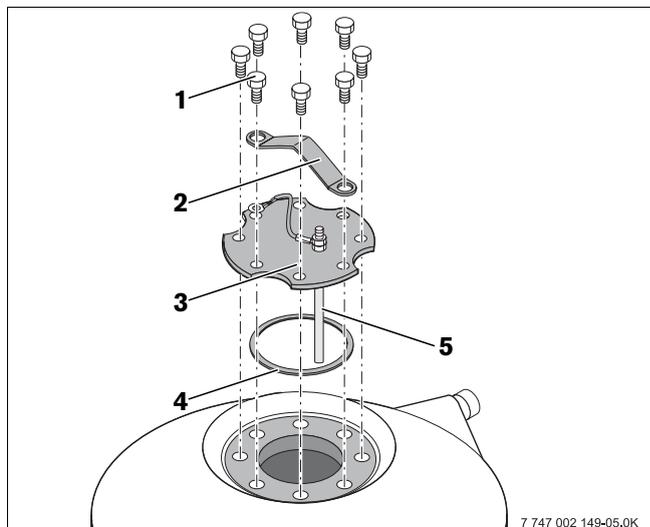

Fig. 17 Installing access port cover
- After cleaning, we recommend you use a new access port cover gasket (Fig. 17, **Item 4**) to prevent the DHW tank from leaking.
- Put the access port cover (Fig. 17, **Item 3**) back in place with gasket (Fig. 17, **Item 4**).
- Screw the hex screws (Fig. 17, **Item 1**) hand tight on the access port cover, screwing on the transport handle (Fig. 17, **Item 2**) at the same time.
- Then use a torque wrench to tighten the hex screws (Fig. 17, **Item 1**) to 18-22 ft.lbs.